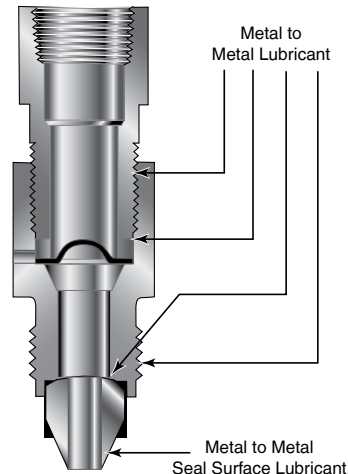

Figure 6
6. Safety Heads - The threads and end of the hold down nut should be lubricated. Refer to figure 6 for lubrication sites on the safety head.